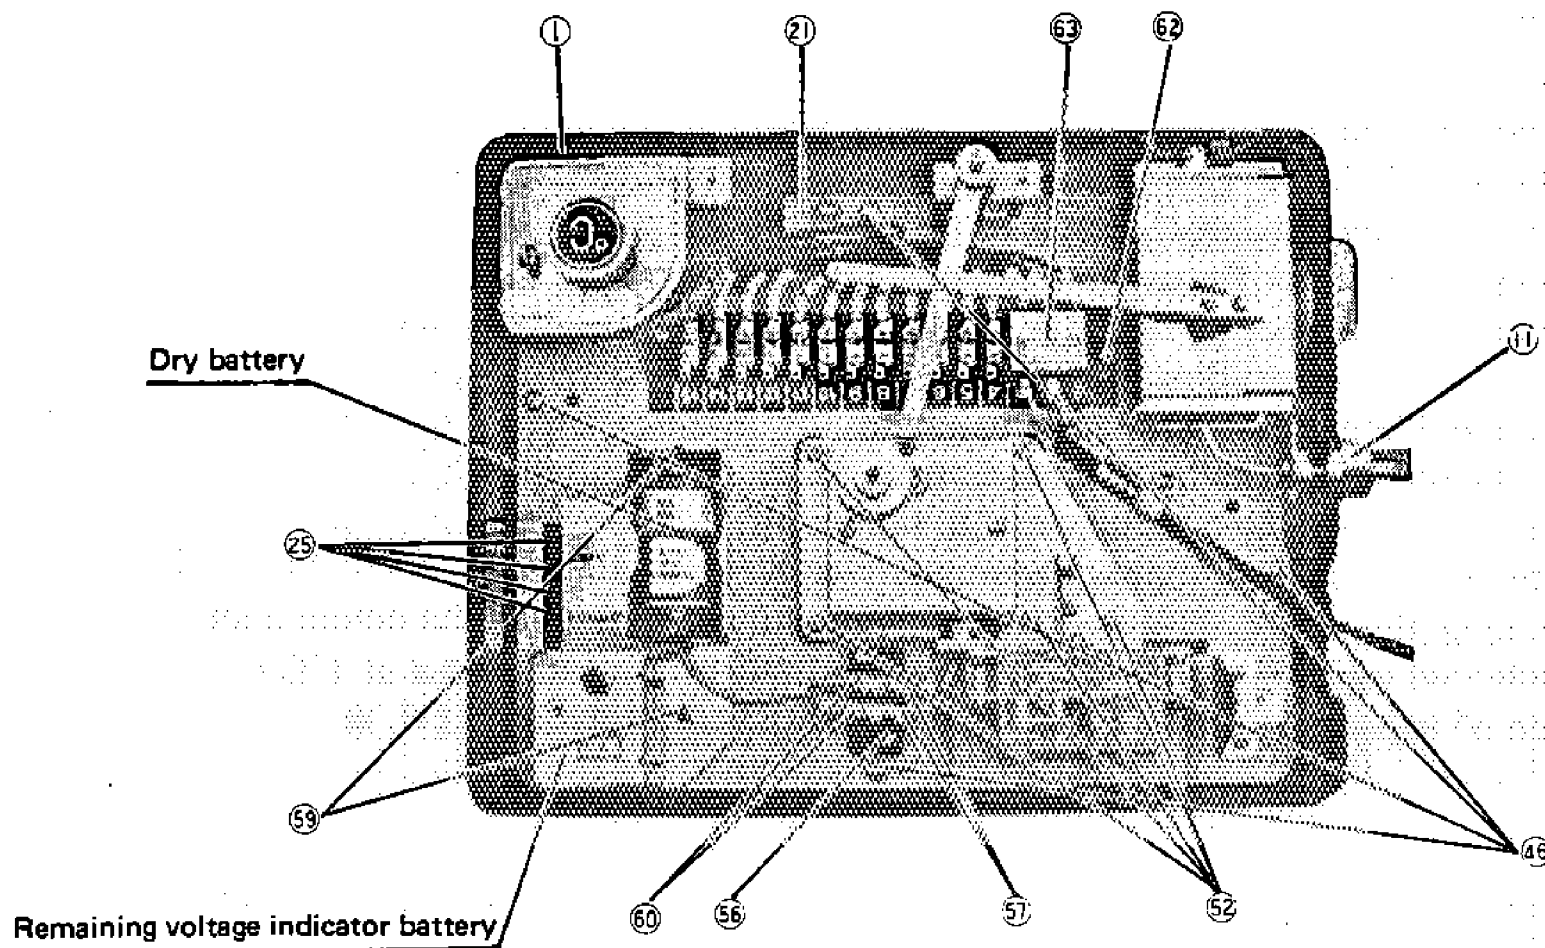

Fig. 3 Internal structure
(1) Remove the recording plate from the body (1) (See Article b. (2)Ⓞ) When it is remove, it looks as shown in Fig. 3. In this state, sensor, timer, remaining voltage indicator and batter and dry battery are replaced.
- In case the pilot lamps for functioning temperature (25) remain unlit although the power source is turned on.
- Remove the recording board, (state shown in Fig. 3). Loosen the screws (62) to remove protection board for impressed voltage (63) loosen terminal screws (Nos. 1 to 3) on the terminal strip (21) and remove the wiring. Then, measure temperature of the feeler part and resistance of the sensor and compare them with the characteristics of temperature resistance shown in Fig. 10, and if they do not accord with them, replace the sensor. If they accord, the main base plate or the volume setter is out of order. So replace it in accordance with Articles d, (2).① and d, (2).②
- Replace the recording board, and insert a battery so as not make a mistake in polarity as in the state of Fig. 3 (Fig. 3 shows polarity of a battery). It is advisable to use a battery similar to SUM-2 of JIS C8501 and R14 of IEC. (Dry battery DC1.5V)
- Remove the recording board (state shown in Fig. 3). Loosen two screw bolts (59) and two screw bolts (60), and the remaining voltage indicator battery can be removed from the indicator body. So replace it with a new battery.
- When replacing, connect the wires to the terminal strip (56) in a way red wire to red and black wire to black.
- Remove the recording board (state shown in Fig. 3). Loosen two screw bolts (57) from the terminal strip (56) to remove the wires. Then remove five screw bolts (58) to replace the timer with a new one.
- When replacing the timer, replace the attached vibration isolators (5 pcs) at the same time. The red wires are for + current and the black wires – current. Connect the wires to the terminal strip (56) in a way that red wires are connected to red and the black wires to black. Tightening torque for vibration rubber is 4 ~ 5 kg-cm.